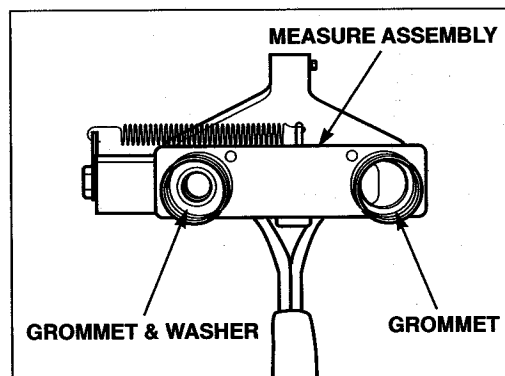

Figure 12
6. Remove the neoprene grommet from the powder opening of the measure assembly, Figure 12.
7. Install the brass washer, with dimples facing up, on the powder side of the measure assembly. Place the neoprene grommet over the washer, Figure 12.
- After making sure that the brass washer and two neoprene grommets are in place in the measure assembly, Figure 12, screw the empty plastic shot and powder containers into each of the threaded cups.